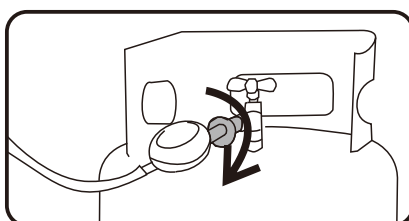

FIG2
2. Rotate the pressure reducing valve to connect the pressure reducing valve to the corner valve of the gas bottle (as shown in Figure 2)